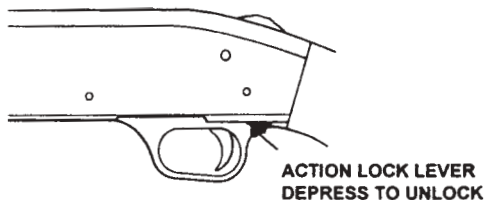
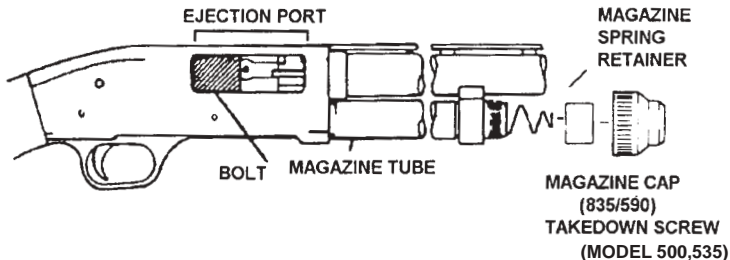

Fig. 3
Fig. 7 — Removal of barrel
The action lock lever allows the action to be unlocked and opened for inspection or unloading without pulling the trigger. The action may be opened by depressing the lever and pulling the forearm rearward (Fig. 3).
**All Models:** Depress the action lock lever, (Fig. 3) and move the forearm rearward until the front of the bolt is in the middle of the ejection port (Fig. 7).
Depress the action lock lever (Fig. 3) and open the action by pulling the forearm completely rearward.
Depress the action lock lever (Fig. 3) and pull the forearm rearward, slowly, until the live shotshell is completely withdrawn and visible in the ejection port. Remove shotshell by hand.
Depress the action lock lever (Fig. 3) and open the action by sliding the forearm fully rearward.
Move the forearm slowly forward from the fully rearward position until the front of the bolt is in the middle of the ejection port (Fig. 7).
Loosen the takedown screw by turning it counterclockwise until the screw threads are completely disengaged from the end of the magazine tube (Fig. 7).